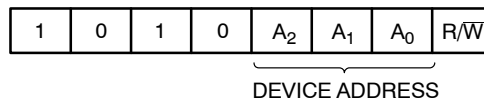

Figure 3. Slave Address Bits
The Master addresses a Slave by creating a START condition and then broadcasting an 8-bit Slave address. For the CAT24C64, the first four bits of the Slave address are set to 1010 (Ah); the next three bits, A₂, A₁ and A₀, must match the logic state of the similarly named input pins. The R/ \bar{W} bit tells the Slave whether the Master intends to read (1) or write (0) data (Figure 3).